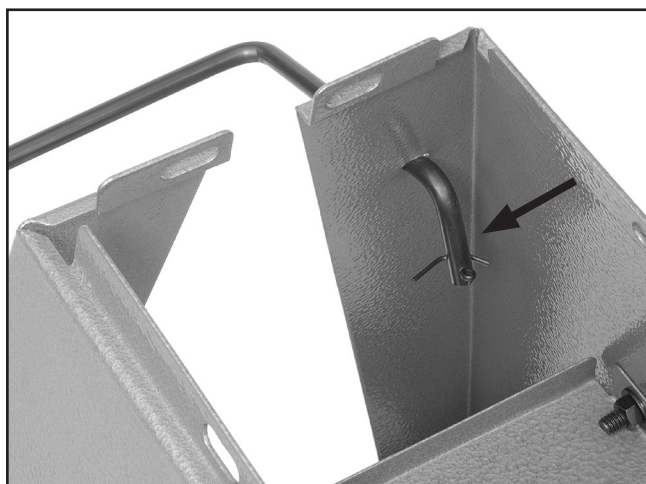

Figure 9. Handle installation.
9. Slide the ends of the handle through the holes in the legs. Do this on the same end as the rubber feet (see **Figure 9**).